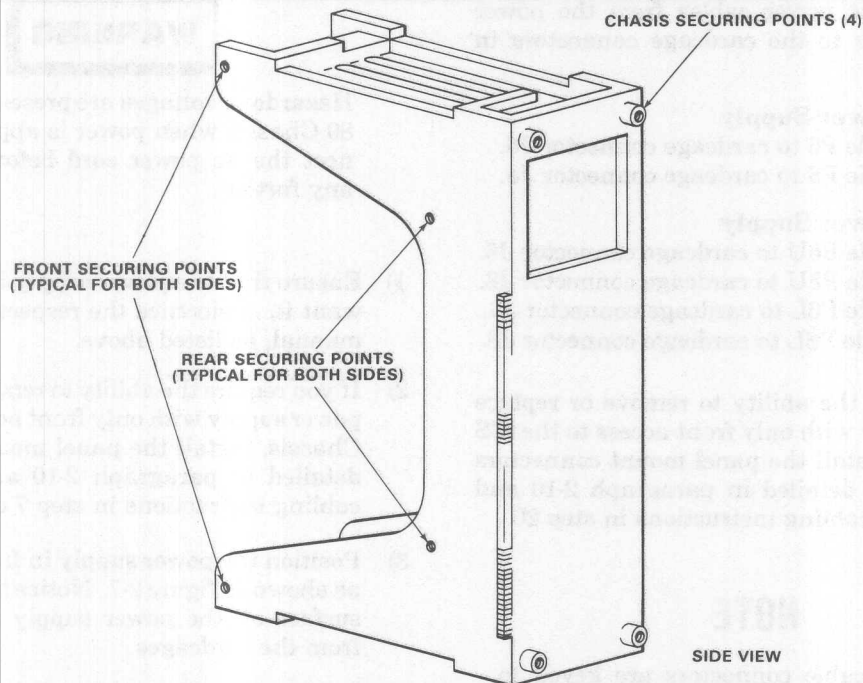

Figure 2-5. iSBC 604/614 Cardcage Securing Points
- 6) Using two 6-32 X 1/2 screws/fasteners from the installation kit with the iCS 80 Chassis, fasten the iSBC 604 and 614 Cardcage Assemblies together at the rear securing points. Reference figure 2-5.
- 8) Secure the iSBC 614 Cardcage to the chassis with four 6-32 self-tapping screws/flat washers from the installation kit. The chassis securing points are shown in figure 2-5.